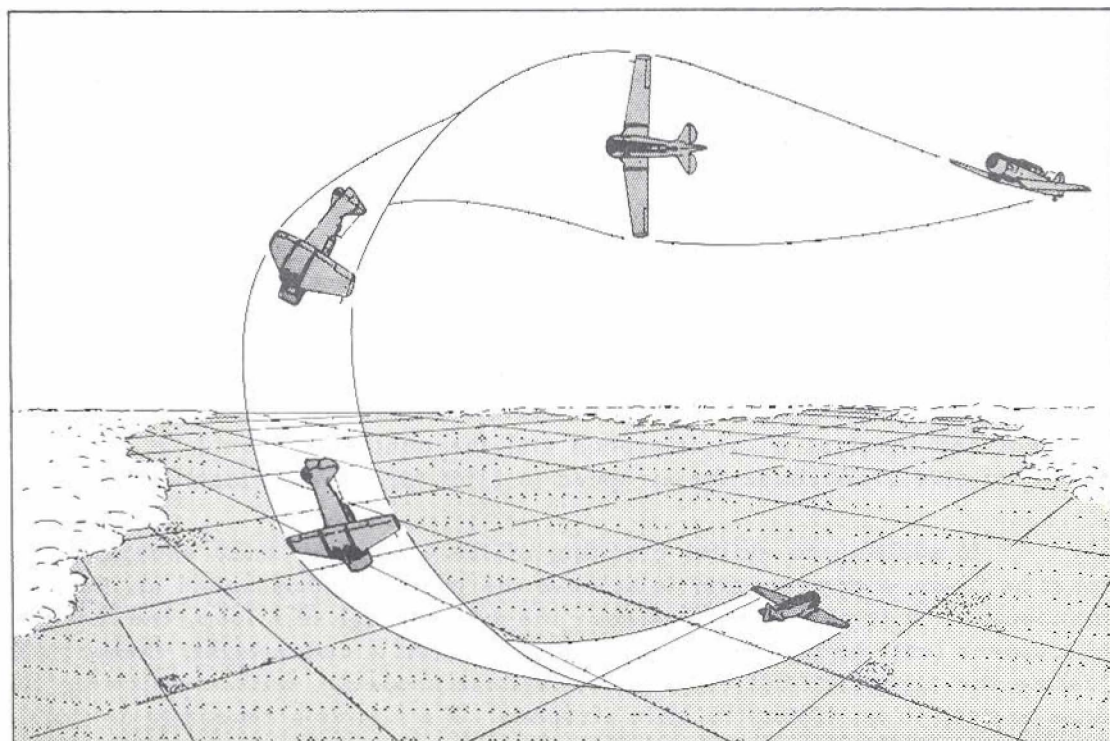

Figure 8: The Half-Roll and Loop-out
(1) The lazy eight is a slow, lazy manoeuvre in which the nose of the aircraft describes a horizontal figure 8 on the horizon, the horizon line bisecting the figure 8 from end to end. The manoeuvre requires continuous changes of pitch and bank attitude through two 180 degree changes of direction. Constantly changing control pressures are needed, owing to the varying airspeeds and changing combinations of climb, dive and bank.
(2) Once the aircraft has been lined-up parallel to a road or other suitable line on the ground, you must choose a reference point on the horizon directly off the wing tip. By blending aileron, rudder and elevator pressures together, you can start a gradual climbing turn in the direction of this reference point. The initial degree of bank should be very shallow to prevent the rate of turn from becoming too rapid. Remember that the rate of turn depends on the degree of bank and the airspeed, therefore, as the nose is raised and the airspeed starts to drop off, the rate of turn tends to increase. Unless the initial turn is shallow, the ensuing rapid rate of turn may cause you to overshoot your reference point.
(3) The pull-up should be timed so that the nose reaches its highest pitch attitude of 45 degrees above the horizon, when there are 45 degrees of bank and 45 degrees of turn. At this stage you should release some of the back pressure to lower the nose towards the reference point. As the airspeed decreases, the amount of yaw to the left increases. Aileron drag is present to a certain extent, depending on the amount of aileron pressure applied, therefore varying amounts of rudder pressure are required to keep the aircraft in co-ordinated flight.
(4) While the nose is being lowered towards the reference point, you must continue to increase the bank until it is approximately 80 degrees as the aircraft cuts through the horizon. At this point the aircraft should have turned through 90 degrees, and a small amount of opposite aileron may be needed to keep the bank from becoming too steep. The lowest airspeed should be attained just before the nose reaches the horizon, and it should be about 60K
(1) In a half-roll and loop-out, the aircraft is rolled into the inverted position, from where it is pulled-through as in the last half of a loop. (Figure 8)